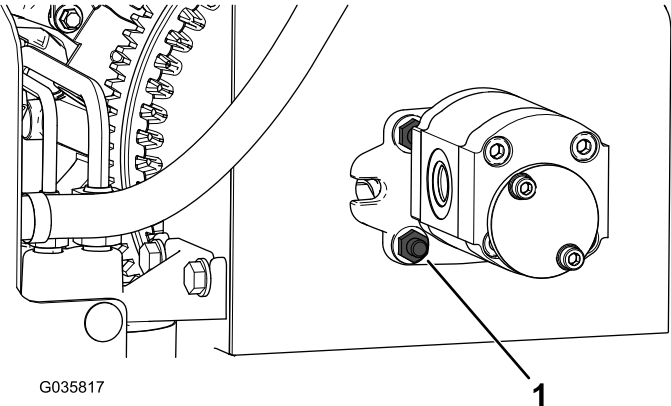

Figure 2
2. Remove the 4 bolts and nuts from the hydraulic pump (Figure 2).